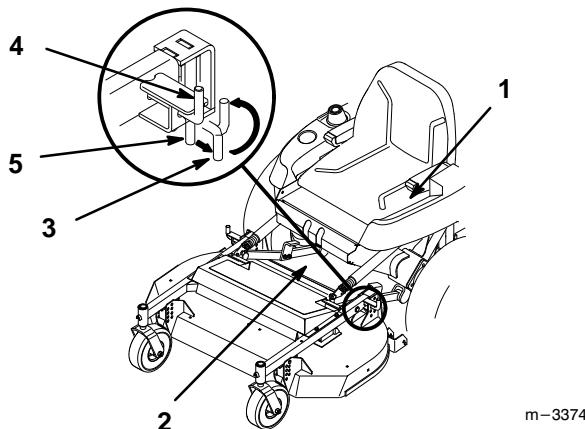

Figure 17
2. Pull out on latch pin to release and rotate into notch to hold in the open position (Fig. 17). Repeat on the other side. Lower rear of mower onto rollers.
1. Pull out latch pins and rotate into notch to hold in the open position (Fig. 17).
3. Rotate latch pins into released position and lift on side of carrier frame until latch pin engages (Fig. 17). Repeat on the other side.